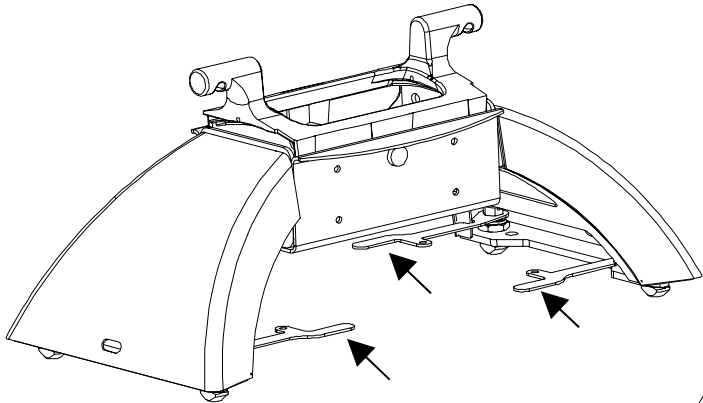

Figure 14A: Anchor Handles in Unlocked Position
7. Replace unit into pucks with all handles in unlocked position(see Figures 14A and 14B). Rotate handles into locked position. It is normal for some of the handles to have very little or no resistance; while others have a moderate amount of resistance when locking. Should a handle not be able to be locked by hand it needs to be adjusted, see Note D.